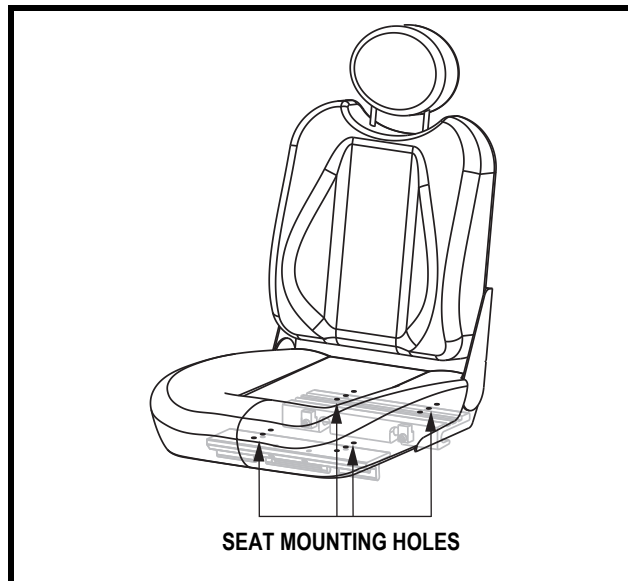

Figure 16. Seat Mounting Holes
5. Reposition the extrusions on a different set of mounting holes. You must move both extrusions the same number of holes either forward or rearward. **See figure 16.**